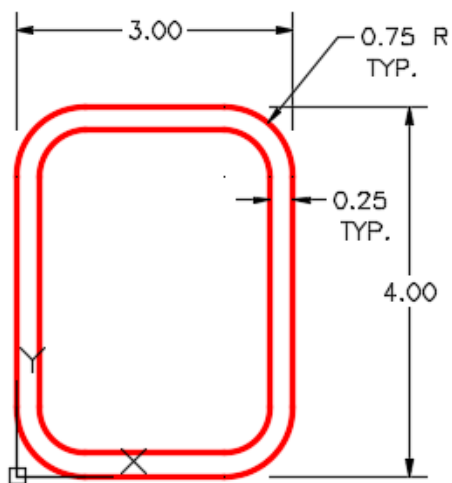

Figure Step 5A
Step 5 Set the current UCS to Front and then draw a model of the object shown in the dimensioned drawing. The drawing should appear as shown in the figure. Draw the model anywhere in model space. Its location is not important. (Figure Step 5A and 5B)